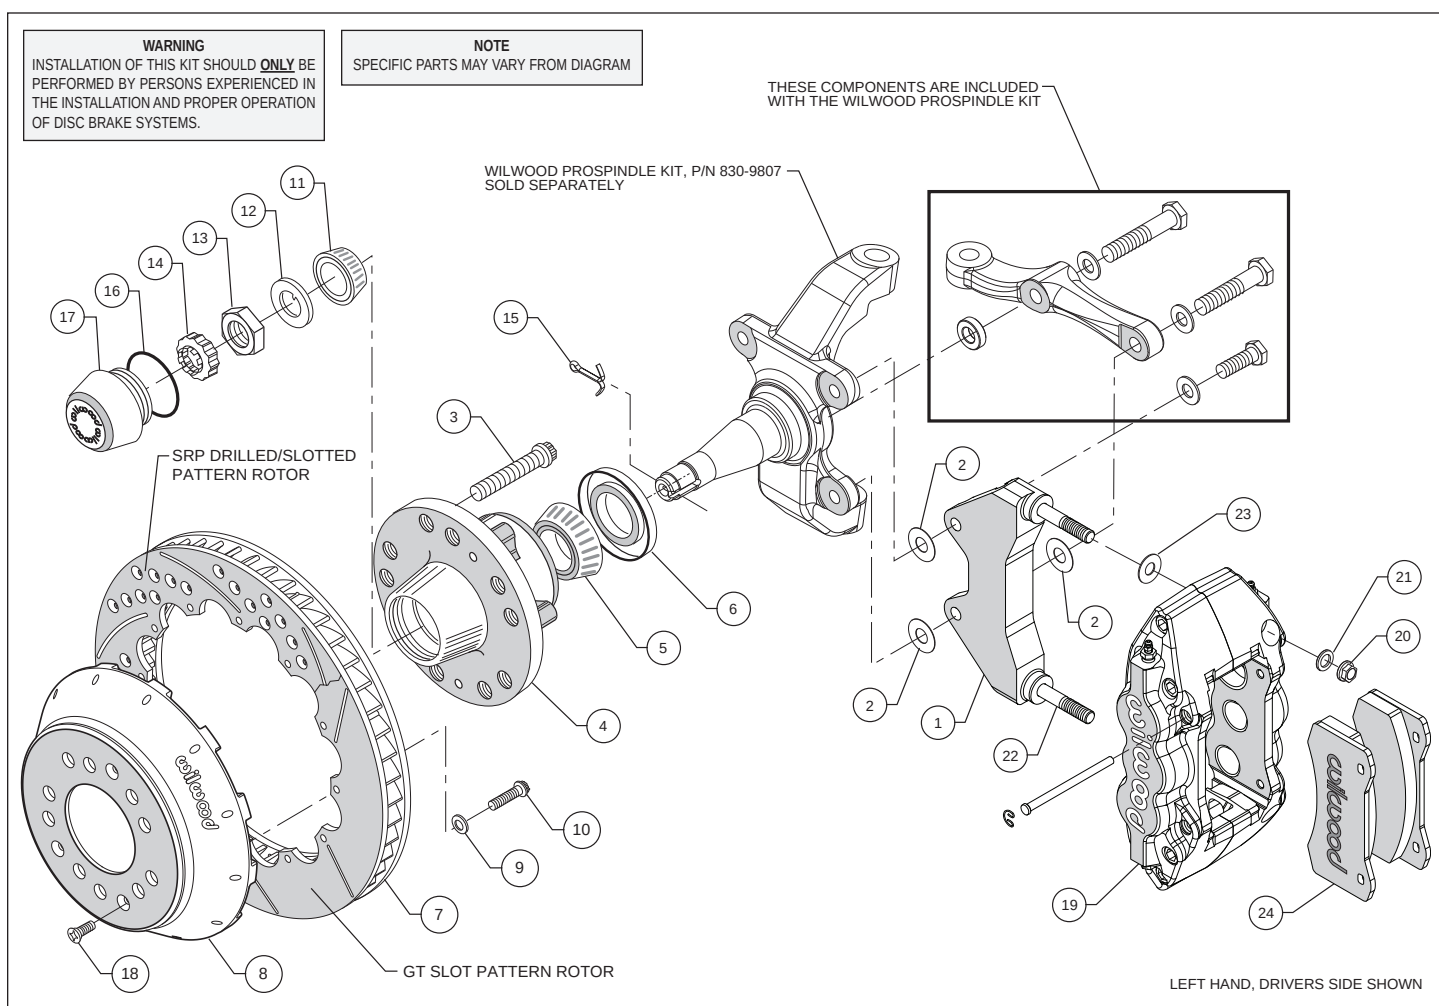
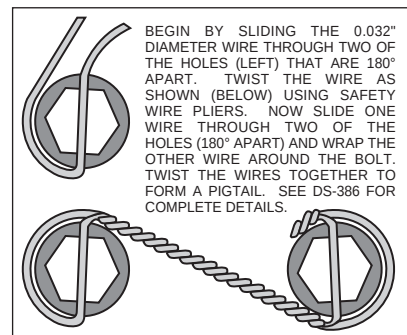

Figure 1. Typical Installation Configuration
Figure 3. Safety Wire Diagram
- Install wheel studs (3) into the hub (4). Torque to 77 ft-lb. **NOTE:** *There are two lug patterns of five holes each in the hub (5 x 4.50 and 5 x 4.75).* Make sure of the correct hole pattern for the wheel application before installing the studs into the hub.
- With the larger I.D. side of the rotor (7) facing away from the hat (8), bolt the rotor (7) to the hat (8) through the backside of the rotor using washers (9) and bolts (10) provided in the configuration pictured in figure 1. Using an alternating sequence, apply red *Loctite*® 271 to the threads and torque bolts to 155 in-lb. For an added measure of security, the bolts may be safety wired using standard 0.032 inch diameter stainless steel safety wire as shown in Figure 3. Please refer to Wilwood's data sheet DS-386 (available at www.wilwood.com/Pdf/DataSheets/ds386.pdf) for complete safety wire installation instructions.